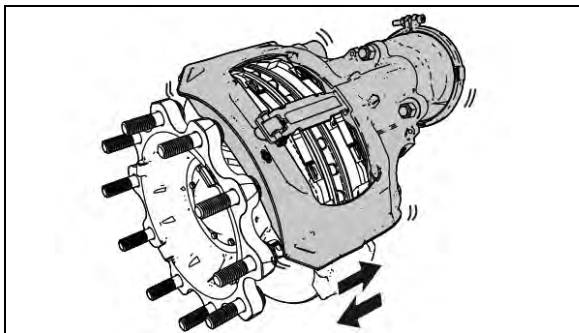

Figure 47: running clearance
3. By pushing and pulling the caliper in an axial direction by hand (see arrows in Figure 47), a movement of 0.6 - 1.1 mm must be possible.